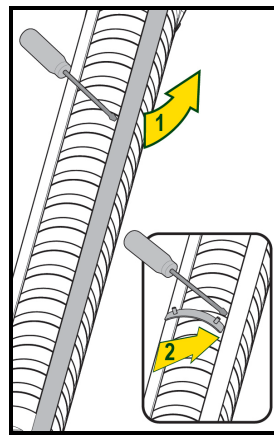

Fig.1a
1. Insert the base under two tie rods with the aid of a screwdriver (Fig1a-1b).